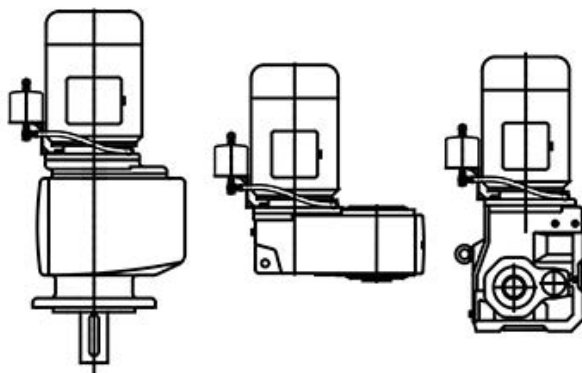

Figure 18: Position of the oil expansion chamber
The oil expansion chamber must be mounted vertically with the hose connection facing downwards and the vent screw facing upwards. Taking the hose length into account, the container should be fitted as high as possible. Suggestions for the position of the oil expansion chamber see Figure 18. Note that with the M4 configuration with terminal box position in position 2, it is not possible to install the oil expansion chamber.
2. Install the oil expansion chamber according to Figure 18. Align it parallel to the motor shaft.